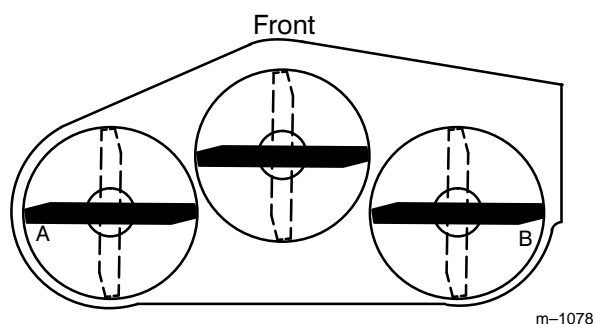
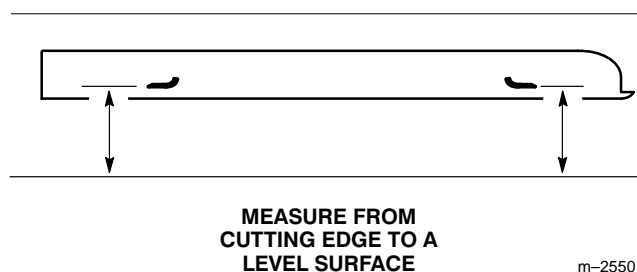

Figure 19
Figure 20
2. Position the blades side-to-side (Fig. 19). Measure at "A" and "B" locations (Fig. 19) from a level surface to the cutting edge of blades (Fig. 20).